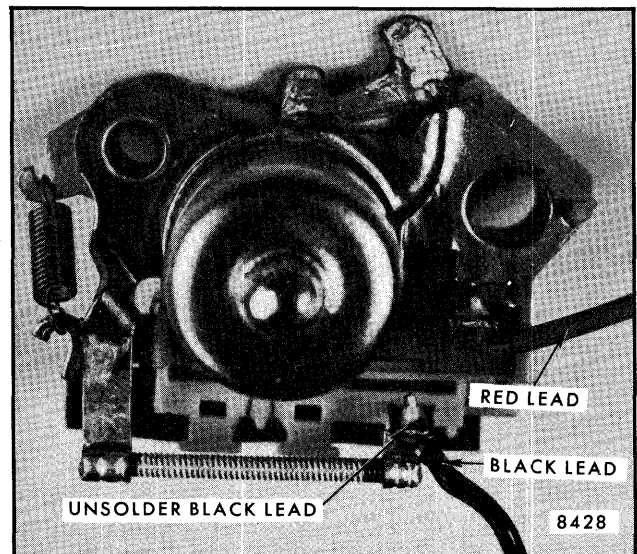

Fig. 2-41-Pulse Relay Terminal
4. Unsolder the black lead from relay terminal. Refer to Figure 2-41 when resoldering leads.